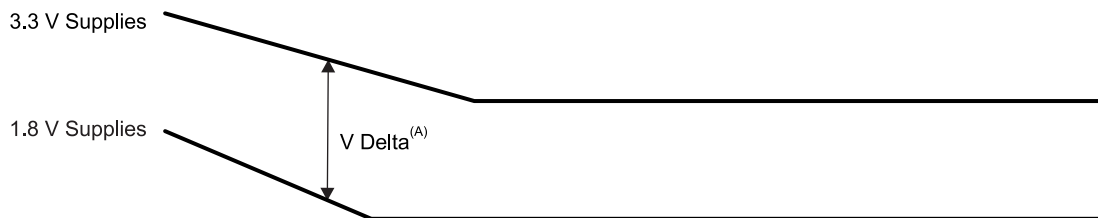

Figure 8-3. 1.8 V Supplies Falling Before 3.3 V Supplies Delta
- (1) The 1.5-/1.8-V DVDD_DDR[x] and CVDD, CVDD_x variable supplies can be powered down prior to or simultaneously with the 1.8-V supplies.
- (2) The 3.3 V supplies **must** never be more than 2 V above the 1.8 V supplies (see Figure 8-3).